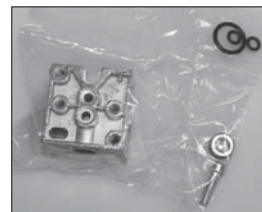

Figure 1
For individual valve installations, use the **516B91 Sub-base** (1 per valve). Kit includes the following: Valve-to-Base O-rings, quantity (2), Sub-Base to Sub-Base O-ring, quantity (1), Sub-Base to Sub-Base fastening screw, quantity (1), Pipe Plug, quantity (1), see figure 1.